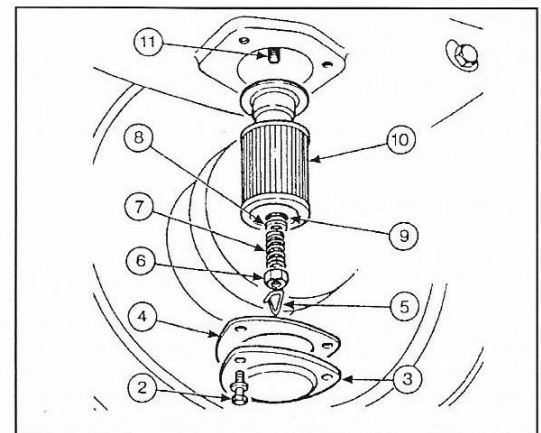

Fig. 97
2. Remove the three bolts (2, Fig. 97) and washers securing the cover plate (3) to the bottom of the centre housing.
3. Remove the clip (5), nut (6) spring (7), washer (8) and 'O' ring (9).
4. Pull out the strainer (10).
7. Check that the strainer stud (11) is tight in the pump housing.
8. Check that the 'O' ring is seated in the pump, then refit the strainer (10).
9. Refit the 'O' ring (9), washer (8), spring (7), nut (6) and the clip (5).
10. Using a new gasket (4), refit the cover plate (3), with the three bolts (2) and washers.